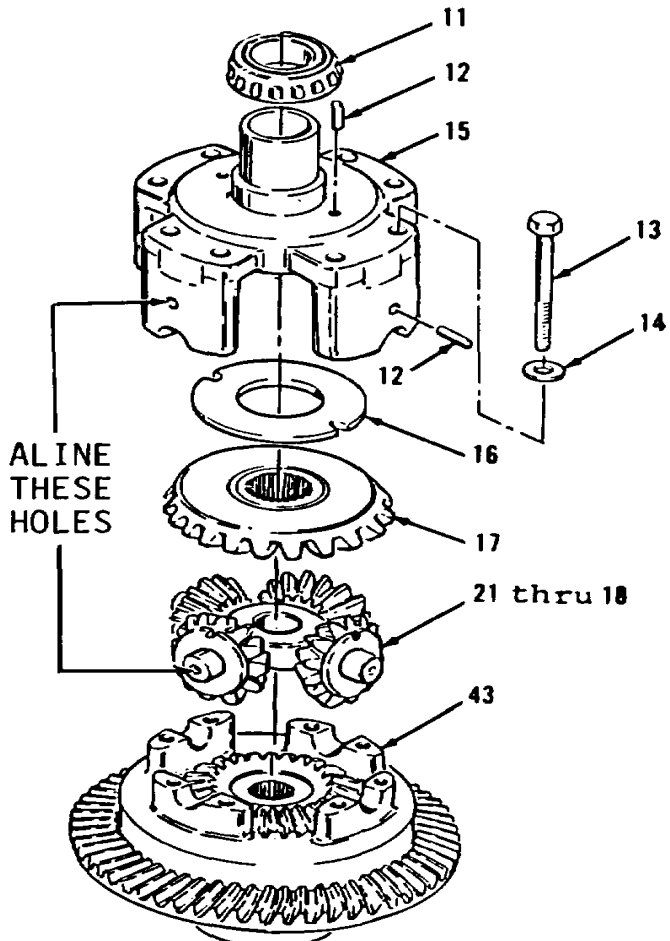
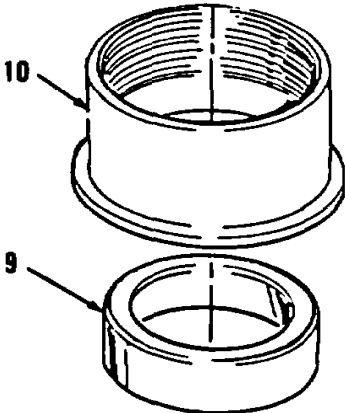

Figure 14-124.
Figure 14-123.
- 19. Install items 21 thru 18 as an assembly in housing (43, Figure 14-124).
- 20. Install gear (17).
- 21. Install washer (16). Notches in washer (16) must be aligned with holes for two dowels (12) in upper surface of housing (15).
- 22. Position housing (15) so that four holes for dowels (12) align with holes in legs of spider (21).
- 23. Install eight washers (14) and bolts (13). Tighten eight bolts (13) to 65 ft-lb torque.
- 24. Install six dowels (12) in housing (15).
- 25. Heat cone bearing (11) in engine oil SAE 30 to 275 degrees F and install.
- 26. Chill cup (9, Figure 14-123) in dry ice or low-humidity freezer and install in cage (10).